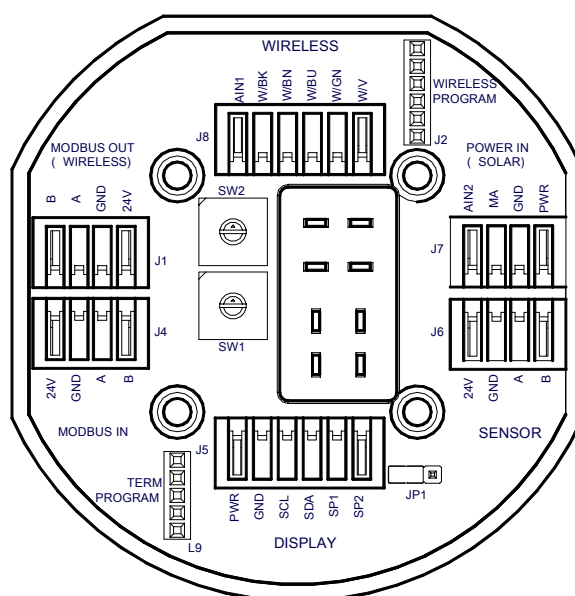

Figure 24 Model 100 Terminal Board
2. The wireless radio module connected to the Modbus™ master port is to be used with a Detcon Smart Wireless battery pack. These units come with the Model 100 Terminal Board will be mounted in the conduit/J-Box (Figure 24). Refer to Table 1 for descriptions of the connector plugs.